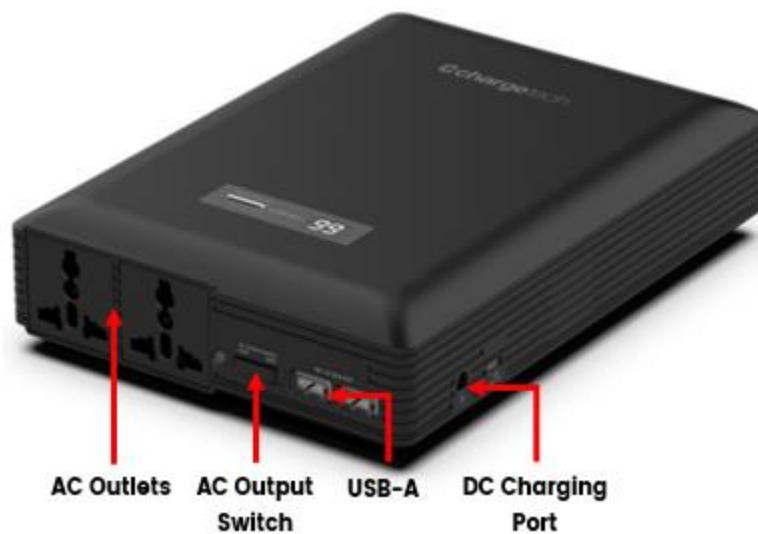

Figure 12: ChargeTech 54K Battery Pack Connections. (Optional)
- A. If using the battery pack, plug the surge protector into one of the AC outlets on the battery pack, shown in Figure 12. Connect the battery pack charger to the battery pack charging port and plug into the AC power port at the back of the case. **Ensure the battery pack is OFF.**